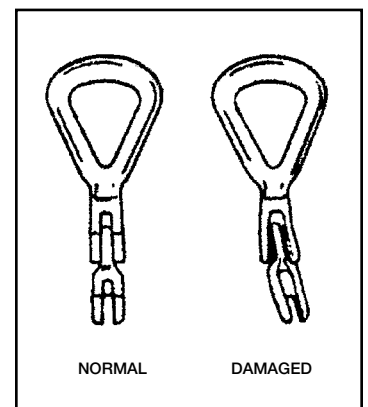

Figure 71
- A. Inspect the shackle for bending at the rivet section, which is an indication of side pull (Fig. 71).